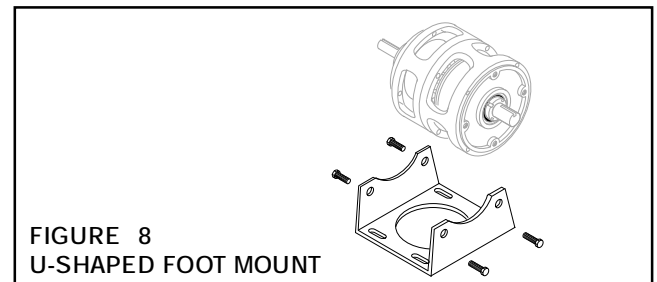

FIGURE 8
2. Set the Modular Unit onto the U-Shaped Mounting Foot (See Figure 8).
3. Secure the Modular Input Unit to the U-Shaped Mounting Foot using the Hex. Head Bolts supplied with the Mounting Foot (See Figure 8).